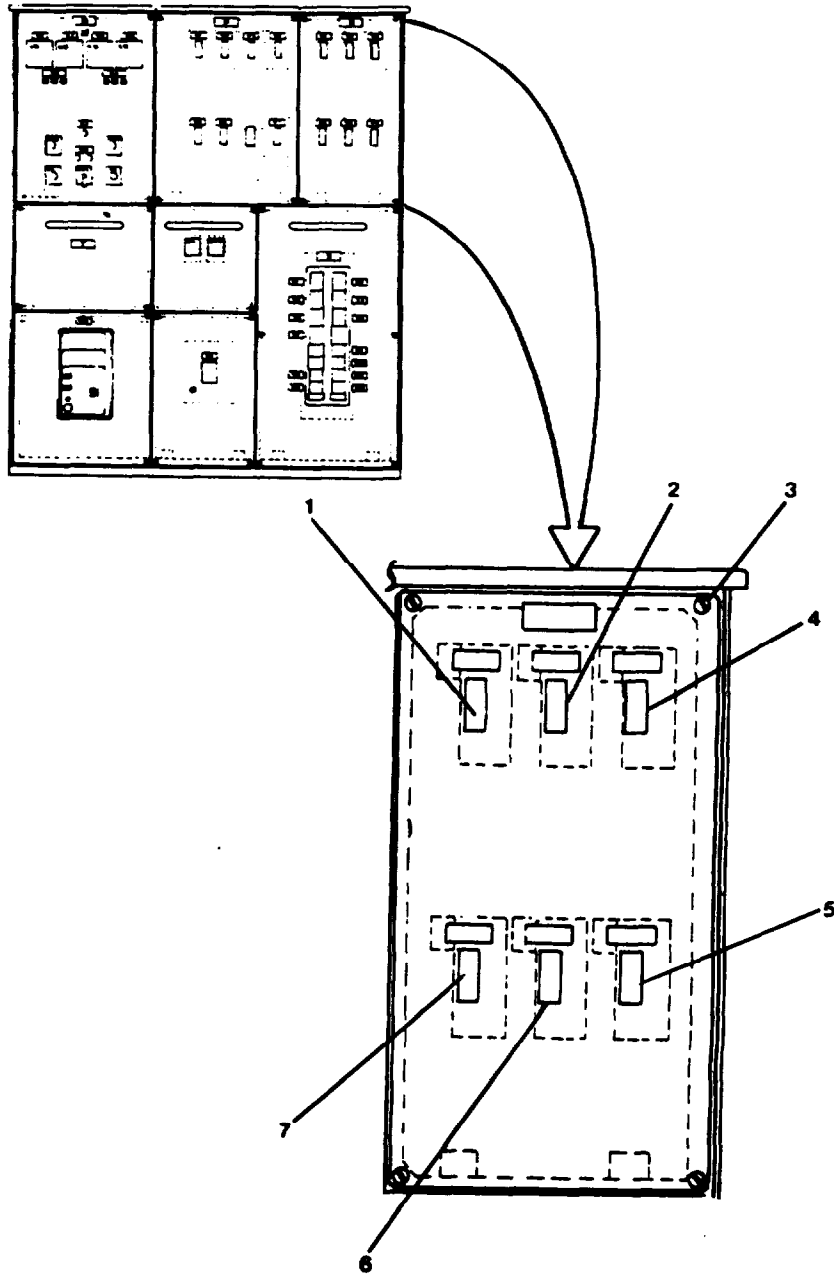

FIGURE 2-221. Emergency Generator Emergency Switchboard Top Right Panel.
**2-300. Replace Emergency Generator Switchboard Circuit Breakers. (FIGURE 2-221)**
For disassembly of circuit breakers (1, 2, 4, 5, 6, and 7, FIGURE 2-221) refer to paragraph 2-292.